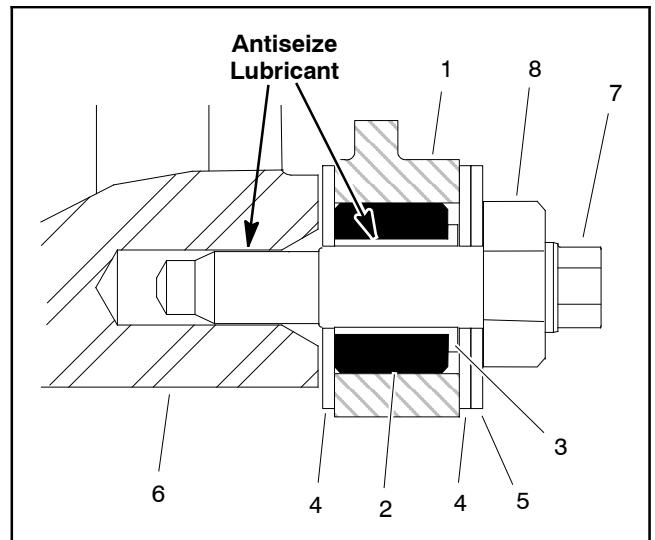

Figure 22
1. If rubber bushing was removed from either cutting unit side plate, install a new bushing. The bushing should be installed flush with the inside of the side plate (Fig. 22).
2. If removed, install the flange bushings (item 2) with flange facing outward. Apply antiseize lubricant to inside of flange bushing.
4. Slide one metal washer (item 4) and one plastic washer (item 3) onto each bedbar pivot bolt.
5. Position bedbar into cutting unit. Make sure that the top of each bedbar arm is between washer (item 9) and adjuster screw flange (item 10).
6. Position a plastic washer (item 3) between bedbar and each cutting unit side plate (Fig. 22).
8. Tighten both lock nuts (item 6) until outside metal washer just stops rotating. Do not over tighten the lock nuts as this can distort the side plates and affect reel bearing adjustment. The plastic washer between the bedbar and side plate should be loose.
9. Tighten the lock nut (item 7) on each bedbar adjuster assembly until the adjuster spring is fully compressed, then loosen lock nut 1/2 turn.